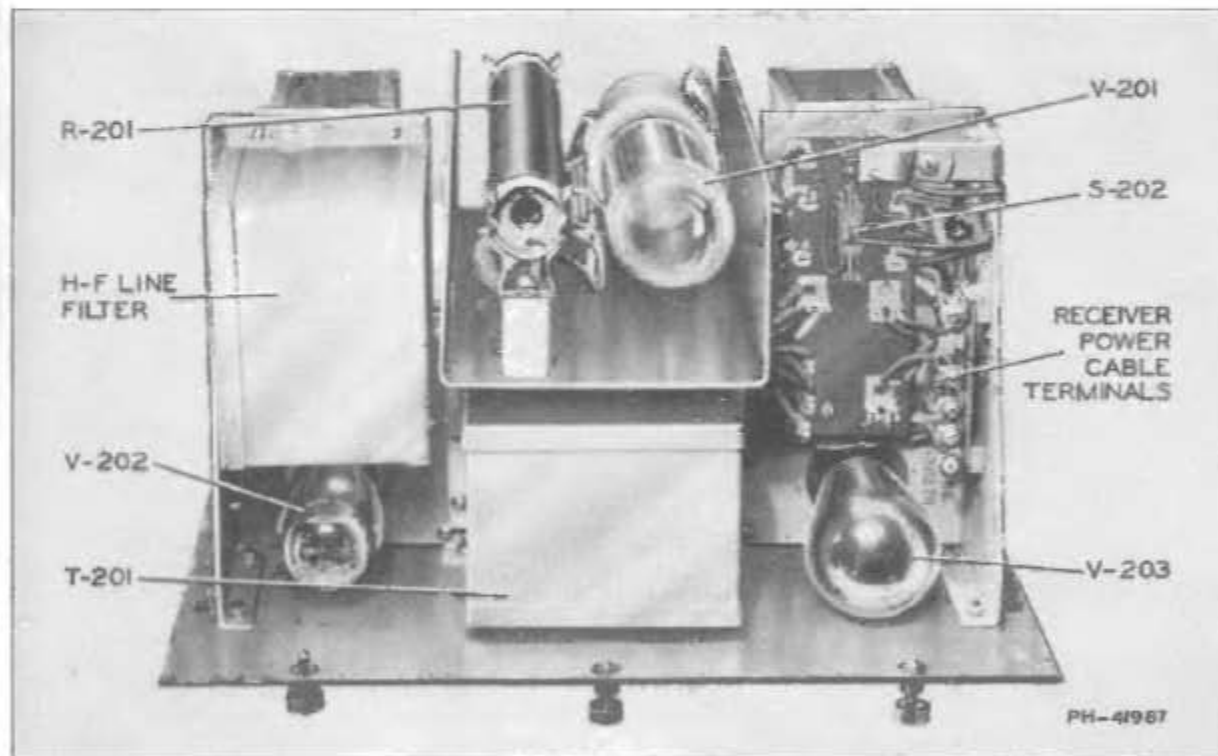

Figure 1—Power Unit CRV-20036A (Top View of Chassis)
- 6.4-1 The wiring between units is shown in Figure 15. At installation, the supply voltage should be measured or otherwise ascertained and the primary taps of the power transformer (T-201) shifted if necessary to comply with the nominal line rating. These taps are connected at the factory for 115 volts as indicated by the marking "115" adjacent to the terminals to which the red wires from toggle switch S-202 is connected (see Figures 1, 4 and 20). If the supply voltage is nearer 110 or 120 volts than 115 volts, shift these red wires to one of the two other pairs of terminals (marked "110" and "120," respectively) as required. To eliminate as much a-c hum and other electrical interference as possible, the 110-, 115-, or 120-volt, a-c supply should be connected to the power unit by a shielded twisted pair of wires (No. 14 or larger), or run in grounded conduit as far as the bulkhead adjacent to the power unit and terminated in a junction box. In no case should transformers or other a-c equipment be located in close proximity to the receiver.
7.1-1 The tube locations are shown in Figures 1 and 15.
- 8.3-1 The power unit is designed for mounting underneath a table (see Figure 14). The cabinet may be permanently mounted, the chassis being removable for access to tubes, for servicing, and for cable connections. All components are mounted on the chassis or panel forming a single assembly (see Figures 1, 4, and 7). On top of the chassis from left to right are located the rectifier tube, h-f line filter shield, power transformer, voltage regulator tube, resistor board, and power terminals. The line filter shield at the left rear is removable for access to the line input terminals and fuses. In the center at the rear is located the current-regulator tube. Beneath the chassis from left to right are located the l-f line filter, ripple filter reactors, and ripple filter capacitor pack.
- 9.5-6 In order to make this power unit interchangeable with the one used in the RAL Series equipment, a socket is provided for a Type 38276 current-regulator tube. Since this equipment operates at relatively low frequencies, the additional freedom from effect of line voltage variation obtained from the current-regulator tube is not needed if the line regulation is within ± 10 percent. In the interest of conserving primary supply current, its use with this equipment is not recommended under normal circumstances. A switch, therefore, is provided inside the unit (see Figures 1 and 4) which accomplishes the changes in circuit necessary for operation without this tube. This switch disconnects the current-regulator tube and switches the power transformer primary for operation directly connected to the line filter. (See paragraph 10.2-3.)
- 10.2-3 Current Regulator Switch: This switch is located under a terminal board at the right rear top of the chassis (see Figures 1, 4 and 20) and should be thrown to the "Out" position for this equipment. In this position, the proper primary connections to the transformer are made for operation without current regulation.